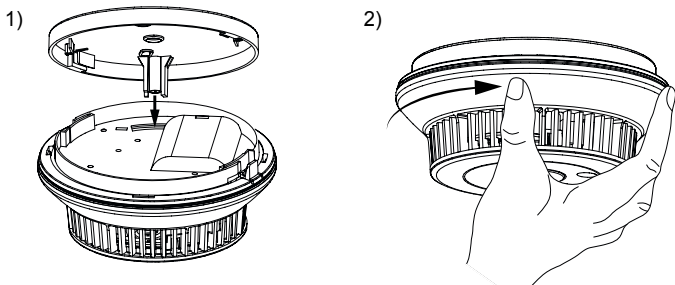

Fig. 7: Latching the smoke alarm
- Turn the smoke alarm afterwards in a clockwise direction into the ceiling bracket until it clicks into place (see „Fig. 7: Latching the smoke alarm“ on page 31).